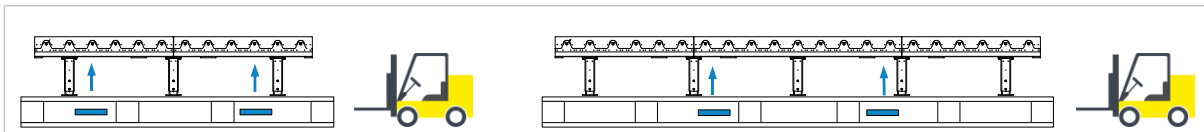

Figure 5: Lifting down from the transport vehicle with a forklift truck
- Centre the appropriately adjusted forks on the freight pallet at the points marked in ⇒ Figure 5 and carefully lift them by a few centimetres. Carefully and consistently lift the roller conveyor including the pallet from the truck and transport it to the desired installation site in accordance with the general safety regulations.